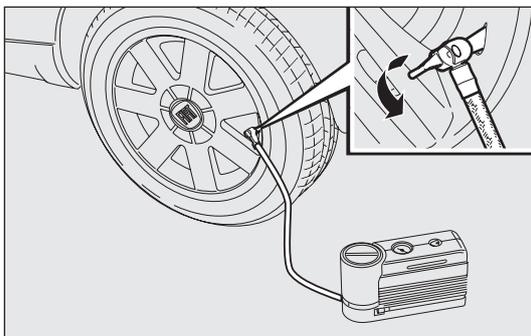
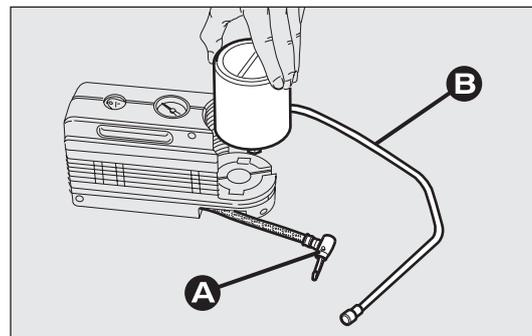

fig. 138
fig. 139
The compressor can be also used just for restoring pressure. Release the bottle connection A-fig. 139 and connect it directly to the tyre valve fig. 138; in this way the bottle is not connected to the compressor anymore and the sealing fluid will not flow into the tyre.
- disconnect the connection A-fig. 139;